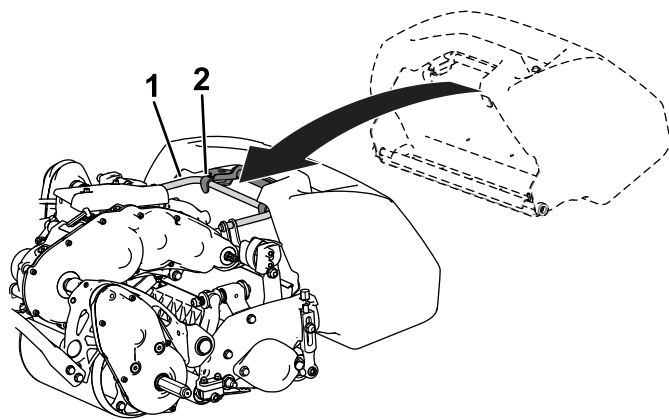

Figure 4
2. Guide the basket lip between the cutting unit side plates and over the front roller (Figure 4).
3. Install the basket hooks over the frame loop (Figure 4).